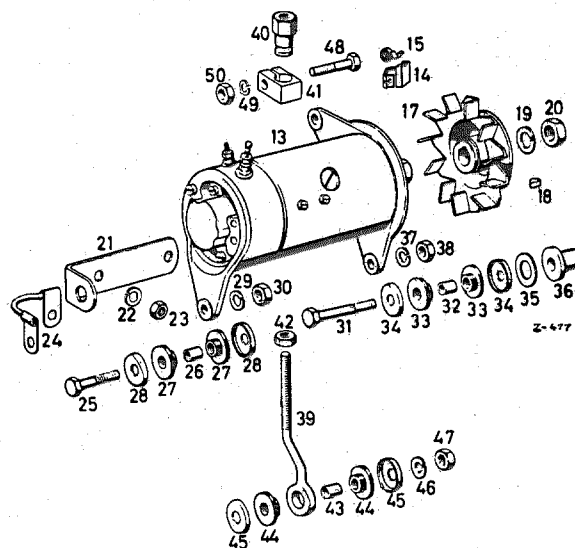

Fig. 01—4/21
Note: In the first version, the generator is supported at the front and the rear between two rubber washers, and the tensioning screw at the bottom at the cylinder crankcase housing is similarly supported between two rubber washers. In the second version, however, (as of Engine No. 65 00476) the generator only is supported at the front between two rubber washers. (Fig. 01—4/22). With the introduction of the second version of the generator mounting, the ground cable (24) was no longer fitted (Fig. 01—4/21). As of Engine No. 65 02360, however, it was installed again and was later fitted to the front of the generator and lengthened. The ground lead on the front of the generator is now located between the washer (14), or alternatively the front generator lug (2), and the lock washer (6) (Fig. 01—4/22, 2nd version).